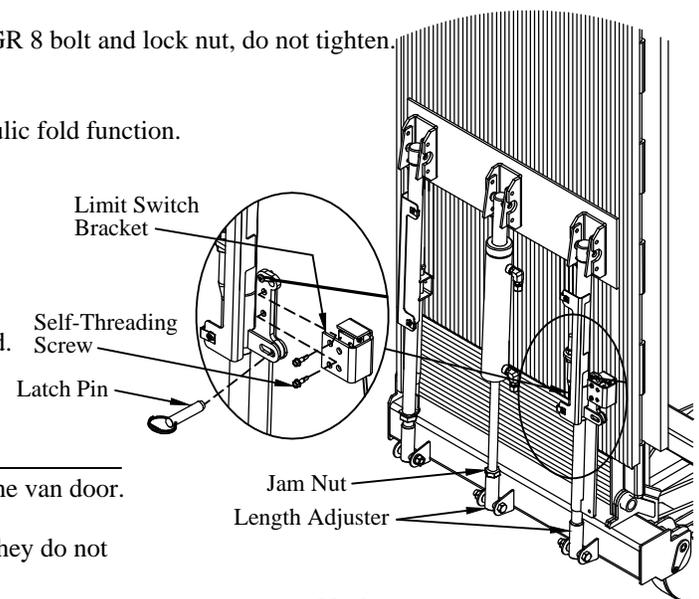

Figure 20: Platform latch and adjustment.
- 4. Install** the limit switch bracket on the passenger side support arm with two (2) #12 self-threading screws. See Figure 20 for bracket shipping location. Make sure that the limit switch is not in the pushed position.
- 3. Support** the platform to keep it from falling or hitting the van in the next steps (Figure 20).